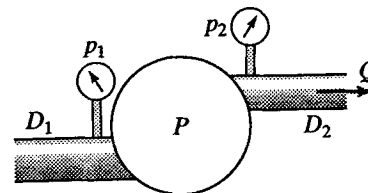

Figure P15.1
- 15.1 The diameter of the discharge side of a pump is 100 mm, and that of the intake pipe is 120 mm (Fig. P15.1). The pressure gage at discharge reads 240 kPa and the pressure gage at intake reads 60 kPa. If $Q = 45$ L/s of water and the pump efficiency is 0.82, find the power delivered to the pump by the drive shaft. The intake of the pump is 350 mm below the discharge side. Neglect the effects of pre-rotation in the entry pipe and assume smooth flow at discharge from the pump.